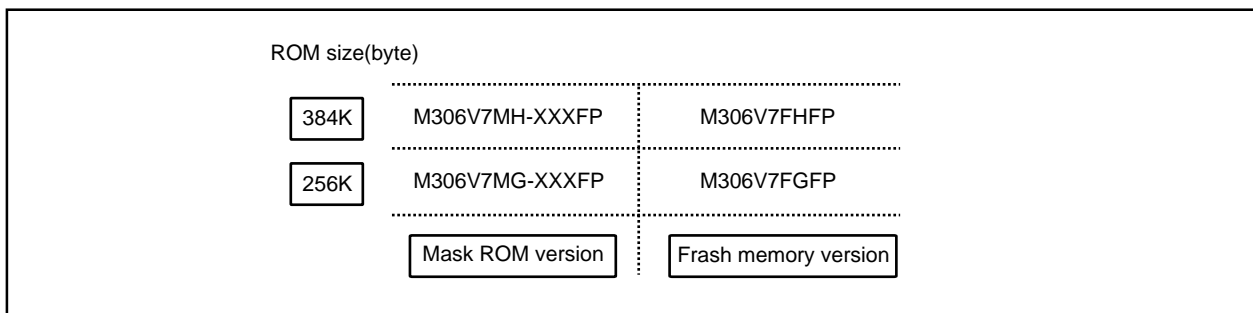

Figure 1.5.1 ROM development
- Memory size ..... Refer to Figure 1.5.1 ROM development